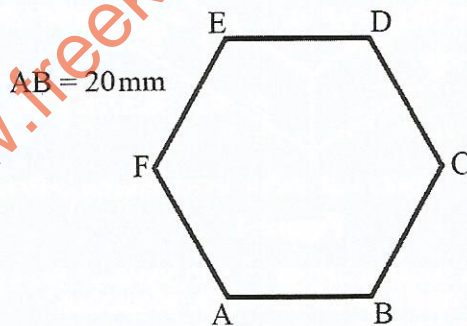

Figure 3
10. **Figure 3** shows a regular hexagon of sides 20 mm. Using F as the focal point, enlarge the figure in the ratio 5:3 and give the length of the new sides. (4 marks)